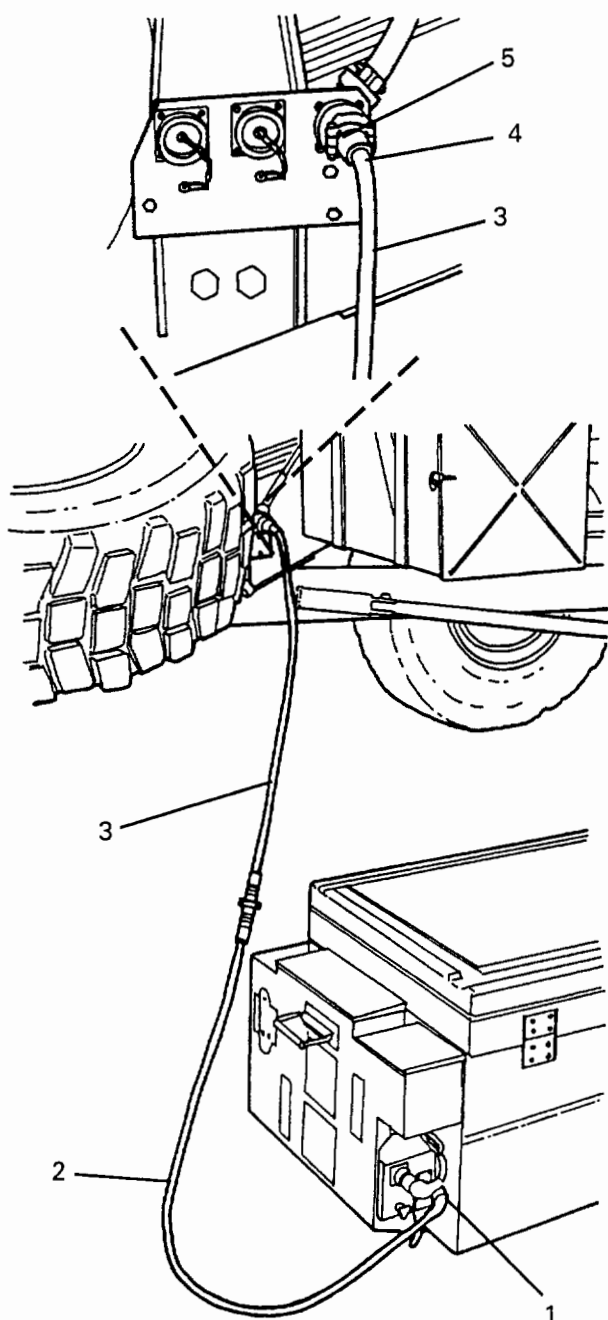

Figure 3-2 — 24 Volt Unimog Power Cable
305. Connect the angled socket (1) of the extension cable (2) to the blood refrigerator. Connect the 24 V Unimog cable (3) to the extension cable, and connect the plug (4) to the Unimog outlet socket (5) (Fig 3-2).